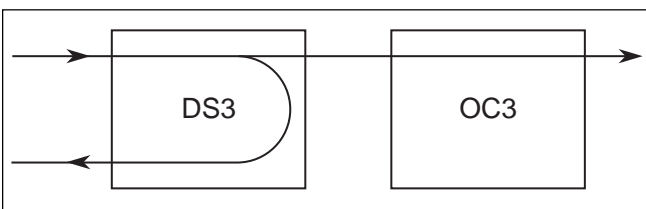

Figure 11. DS3 Line Loopback
3. **DS3 Line Loop** – Provides a loopback for the data being sent from the DS3 side of the OPTI-3. Any combination of DS3s may be tested without effecting any other DS3. See **Figure 11**.